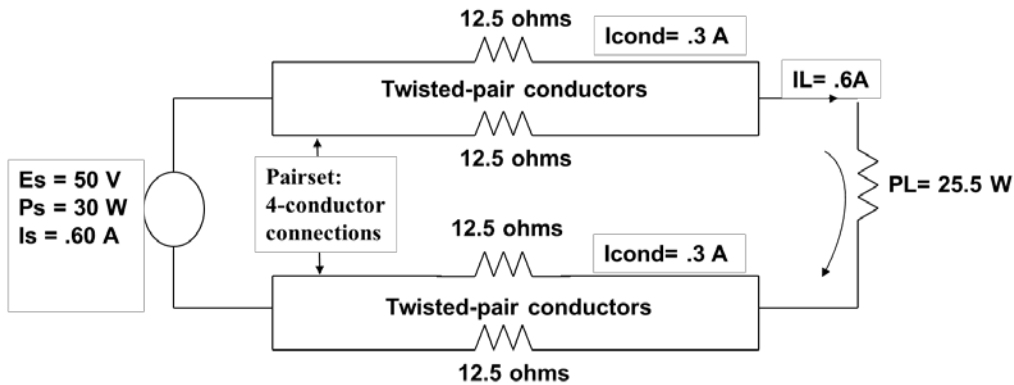
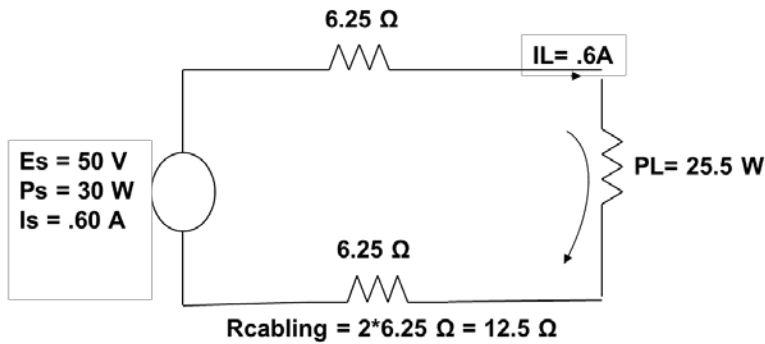
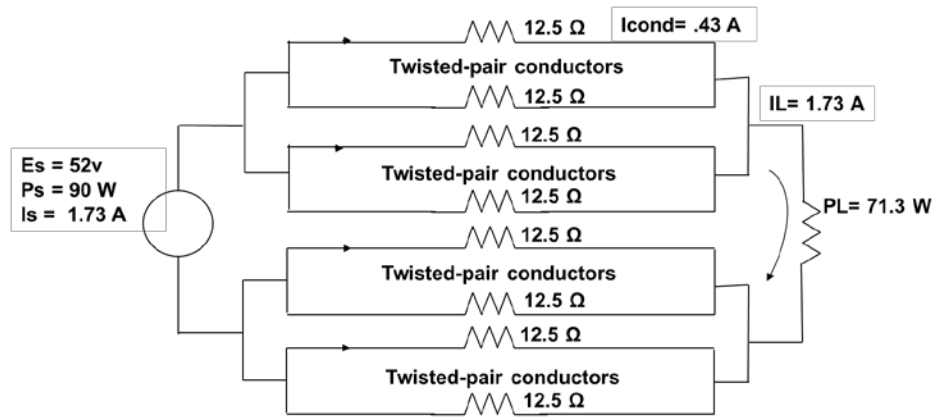

Figure 1: Class 4 PD powering schematic
Figure 2: Class 4 PD powering schematic simplified
Figure 3: Class 8 PD powering schematic
The power system provides constant power to the powered device (PD). Powering schematics with the nominal highest current per pair and the maximum DC loop resistance are illustrated in Figure 1 for a Class 4 powered device (PD) with a constant power of 25.5 W and in Figure 3 for a Class 8 PD with a constant power of 71.3 W. The 4-conductor connection is defined in 802.3bt as a “pairset”.
The power schematic is simplified in Figure 2. By combining the parallel 12.5 Ω resistors in Figure 1.
The maximum conductor DCR of 12.5 Ω in Figures 1 and 3 are derived from a cabling topology consisting of: